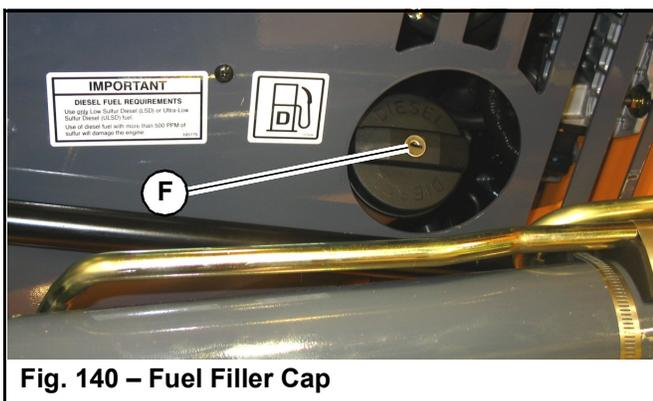

Fig. 140 – Fuel Filler Cap
2. Use the ignition key to unlock fuel cap (F, Fig. 140) and remove the fuel cap from the fuel filler neck.